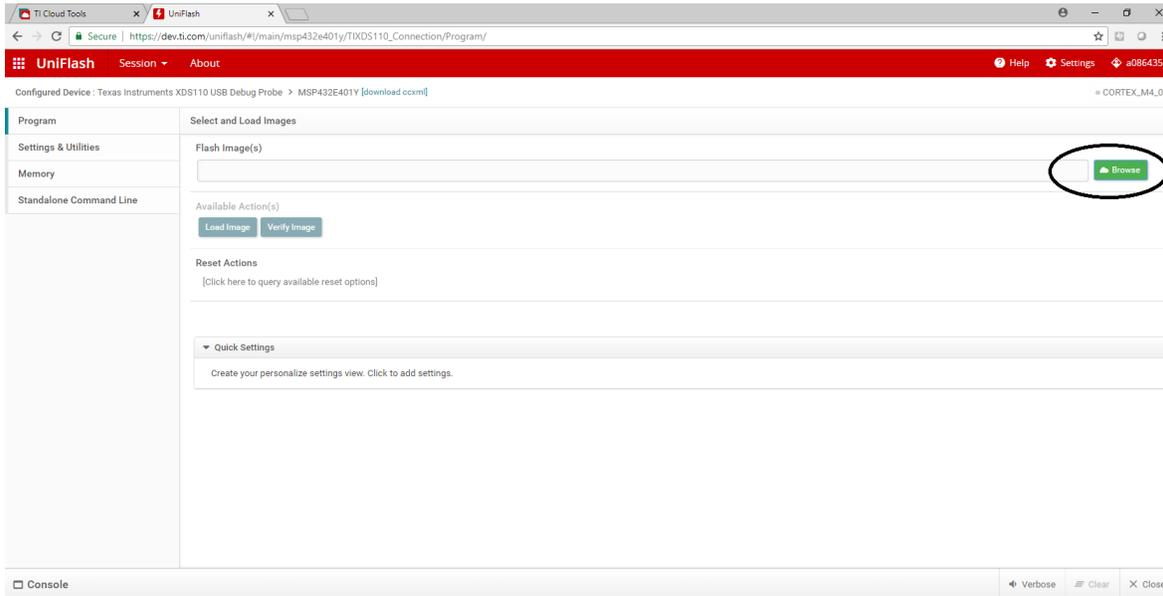

Figure 13. UniFlash: Browse to Firmware
- From the *Program* tab shown in Figure 13, Browse to the *Flash Image* to be installed. The firmware file is found under the *Program Files (x86)\Texas Instruments\ADS1119\firmware* folder.